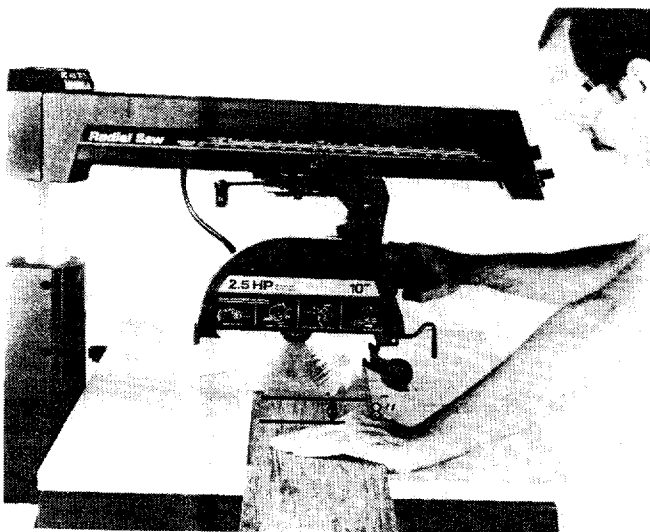

*Fig. 96 - Distance Needed to Complete Crosscut*
13. Pull blade through fence and workpiece just enough to complete the cut. Fig. 96.